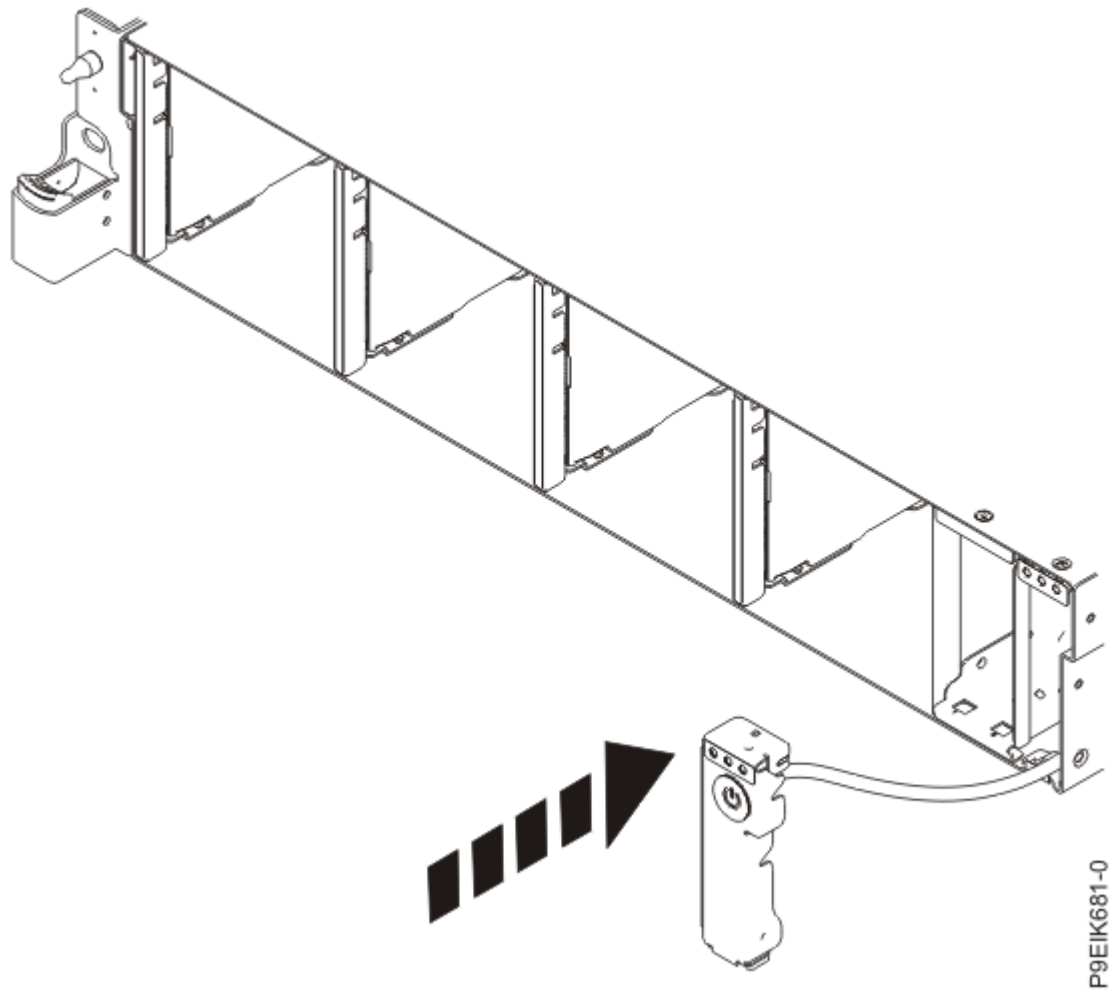

Figure 106. Replacing the power switch and cable into the system backplane
3. Insert the power switch and cable into the system as shown in Figure 106 on page 120. Be careful to route the cable through to the system backplane.